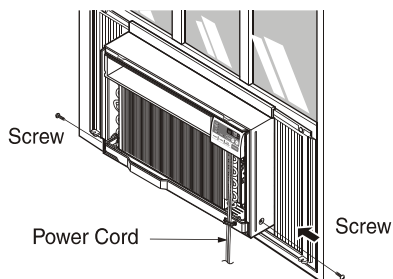

Fig. 7
7. Slide the unit into the cabinet. (See Fig. 7)